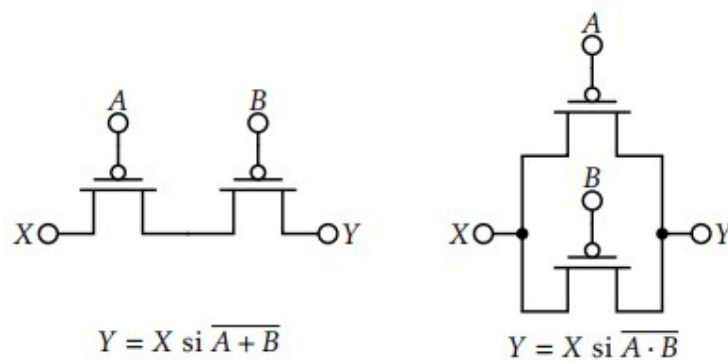

Figure 8: PMOS Logic Gate
5. Serial PMOS correspond to the NOR function, while parallel PMOS correspond to the NAND function; Figure 8.